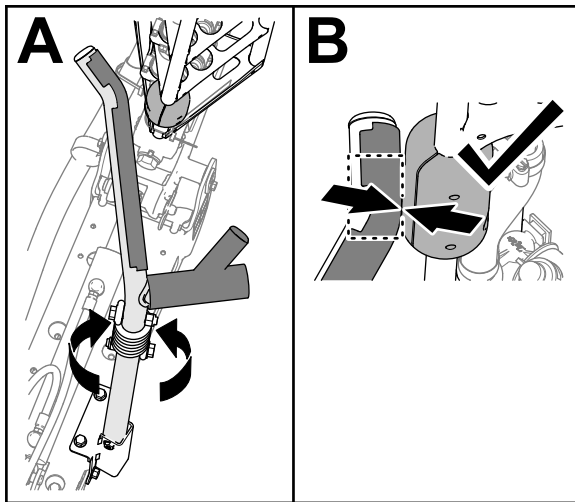

Figure 118
4. Rotate the cradle assembly until the bend in the cradle tube aligns with the slide block on the top tube of the outer boom (Figure 118)
Note: The blocks must contact the cradle at the bend in the upper cradle tube (Figure 118).